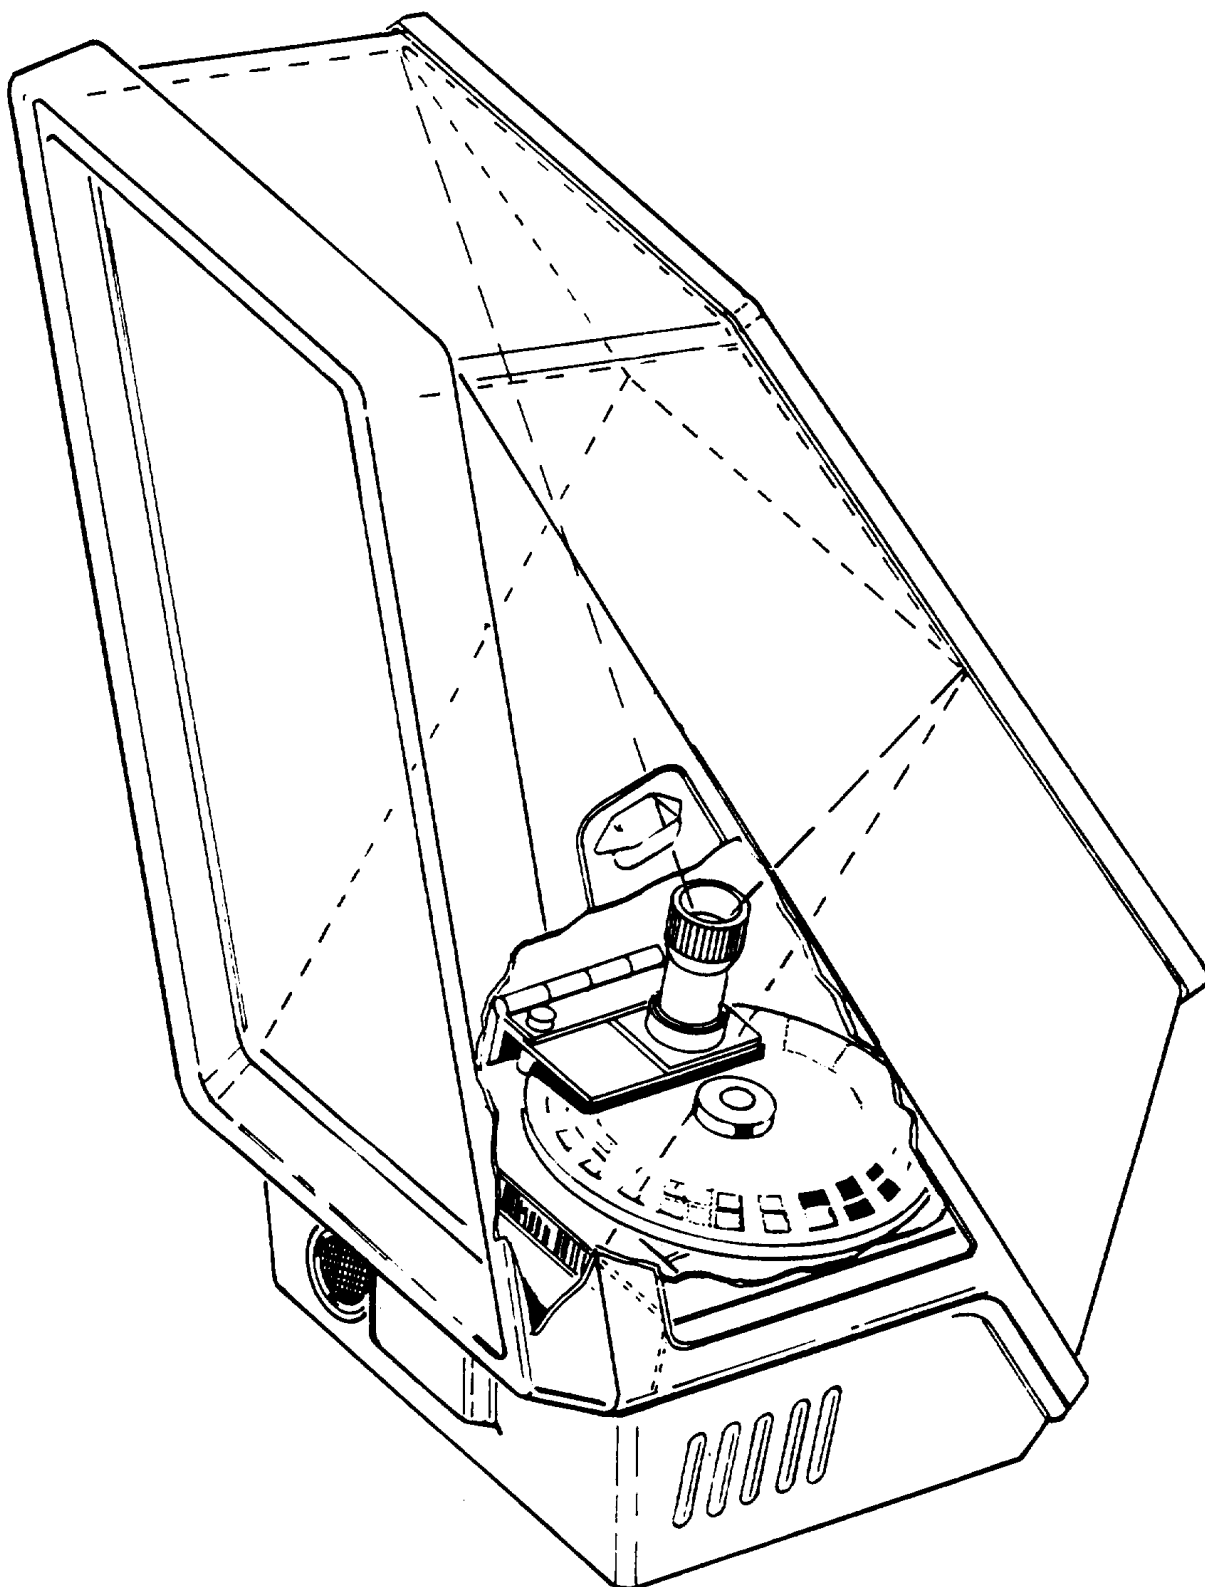

Figure 1-3. Viewer Assembly
c. Viewer Assembly. Inside the viewer assembly (fig. 1-3), the projector projects a slide on the screen in accordance with actions taken on the display panel and control console. The slides are pictures, word messages, or a combination of both. They provide information about components, malfunctions, tests, actions, and hazards. The control program determines when to show a particular slide and how long to leave the projection lamp on. Paragraph 2-2c gives directions for loading a projection disk (fig. 2-7).